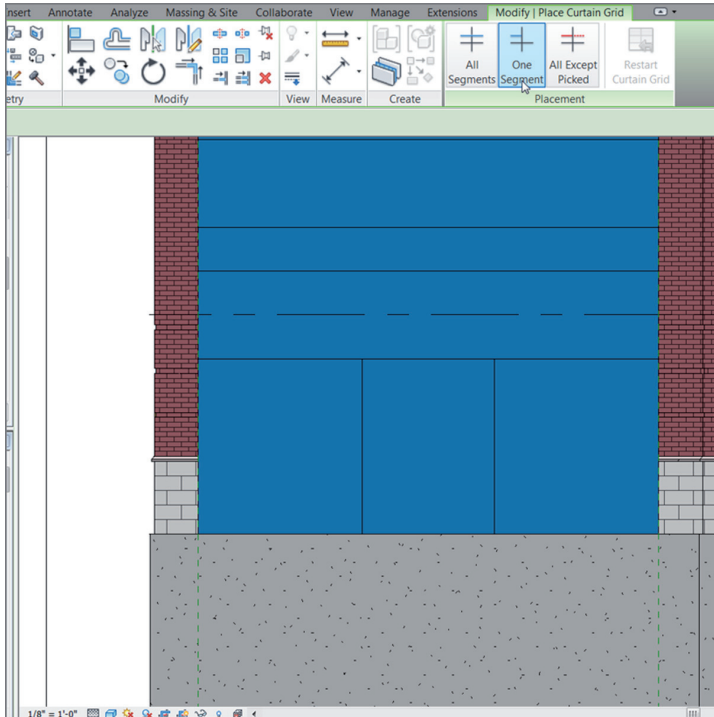

FIGURE BC1.33: Chopping up the panel
18. Copy the grid to the right 6'-0" (1600 mm). Your wall should now look like Figure BC1.33.